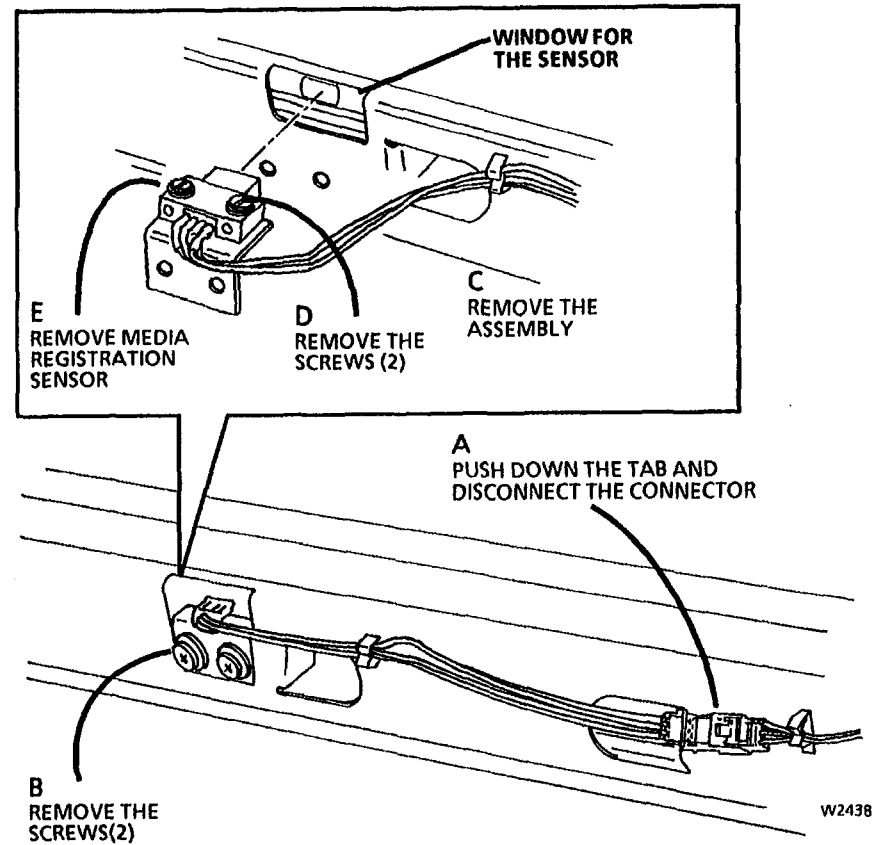

Figure 1. Removing the Media Registration Sensor
3. (Figure 1): Remove the Media Registration Sensor.